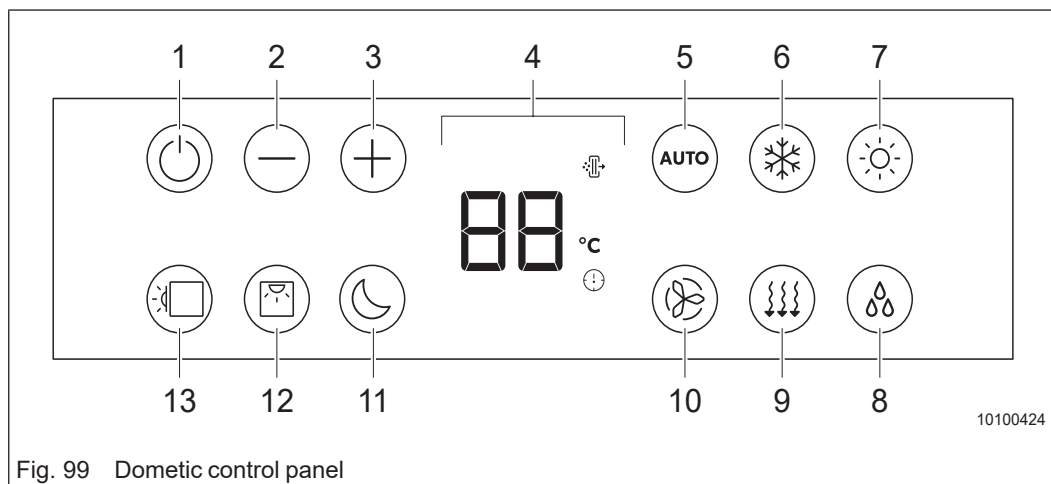

Fig. 99 Dometic control panel
- ➔ Point the remote control (Fig. 98) at the control unit on the underside of the air conditioning system (Fig. 99).
- ➔ Use the "On/Off" button (Fig. 99/1) to activate the air conditioning system. The settings that were last selected are stored/applied.
- ➔ Set the desired temperature with the buttons (Fig. 99/2 and Fig. 99/3).
- ➔ Select the desired fan speed by pressing the “Fan speed” button (Fig. 99/10) once or several times.
- ➔ Press the “On/Off” button (Fig. 99/1) to switch off the air conditioning system or put it in standby mode.